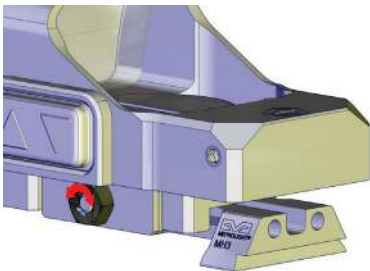

Figure 4: Tension Adjustment Nut
- Ensure that the MicroRDS is firmly secured on the Meprolight TruDot™ self-illuminated sight. If the MicroRDS is not firmly secured, adjust the tension adjustment nut (see also figure 4).